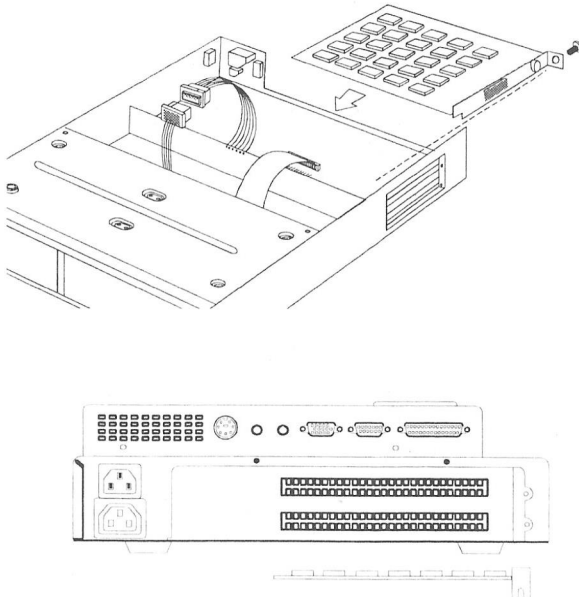

Figure 3-6
4. Insert the controller card and secure it snugly with the screw you just removed. (see figure 3.6)